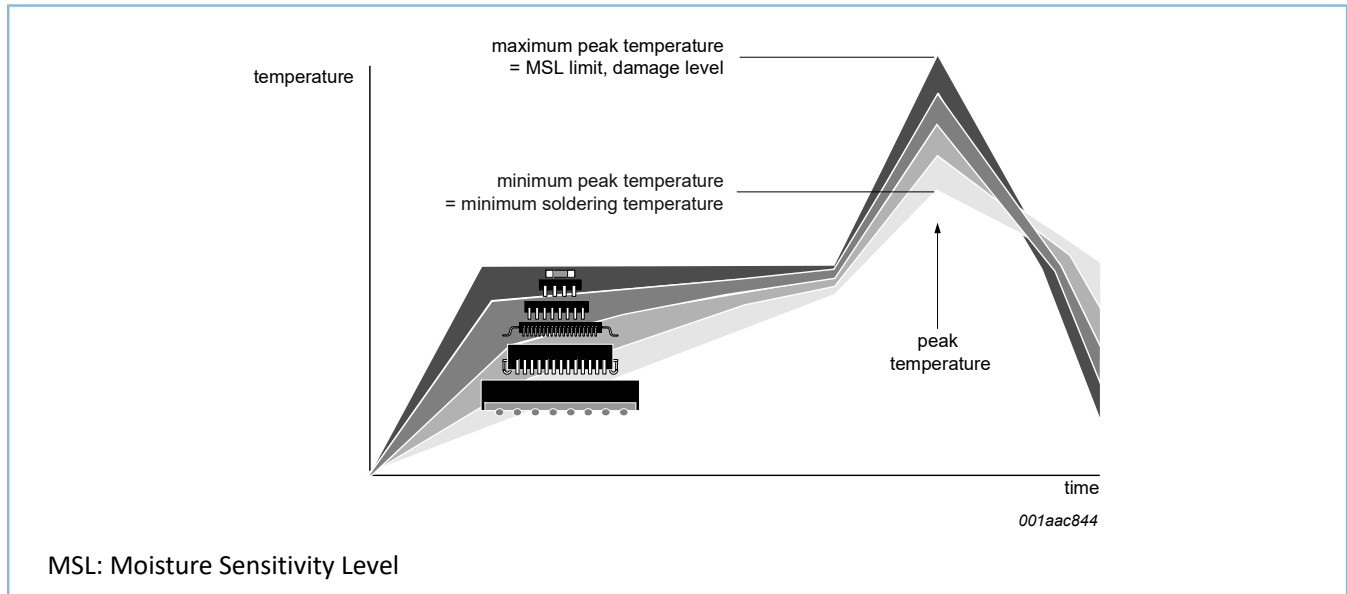

Figure 14-1: Temperature profiles for large and small components
- Lead-free versus SnPb soldering: A lead-free reflow process usually leads to higher minimum peak temperatures (see Figure 14-1) than a SnPb process, therefore reducing the process window.
Studies have shown that small packages reach higher temperatures during reflow soldering (see Figure 14-1).